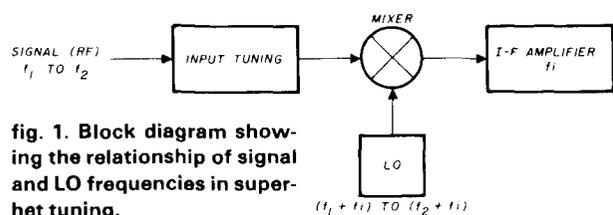

fig. 1. Block diagram showing the relationship of signal and LO frequencies in superhet tuning.
The final design uses a parallel tuned circuit with capacitive coupling on the input (fig. 1). To minimize circuit losses I used a low-loss microstrip line rather than a lumped inductor. Resistive loading is used on the output and will be discussed later. I am presently using this preamplifier without an external cavity and have experienced no problems with intermodulation. Since the preamplifier is capacitively coupled at the input, greater rejection of unwanted signals will occur below 432 MHz. When the preamplifier is adjusted for minimum noise figure at 432 MHz, 10 dB of rejection is typically obtained at 200 MHz, 26 dB at 100 MHz, and 40 dB at 50 MHz. In all but the worst of environments this should be adequate.
fig. 1. Schematic diagram of the low-noise preamplifier for 432 MHz; typical noise figure is less than 1.0 dB. The NE64535 transistor is manufactured by Nippon Electric Company (NEC) and costs \$17 in small quantities.
out any modifications to the bias network shown in **fig. 1**.
**Fig. 1** illustrates what is to be accomplished. As the tuning capacitor is rotated, the receiver's input circuits must tune from the lowest signal frequency,  $f_1$ , to the highest signal frequency,  $f_2$ . At the same time, the local oscillator (LO) must tune to a frequency which is always equal to the signal frequency plus the intermediate frequency, the i-f being a constant
A CW signal from the phone jack of a receiver is fed to the 8-ohm winding of T1 (see fig. 1). This transformer presents a low-impedance termination for the receiver audio stage, as well as providing a voltage step-up for the input of the LM567. The two 1N34A germanium diodes across the secondary limit the audio voltage to near the optimum value for the tone decoder. The three resistors and the capacitor connected to pins five and six determine the frequency range over which tones can be decoded. When a tone of the proper frequency is present at the input terminals, the output (pin 8) goes to ground and causes the LED to light.